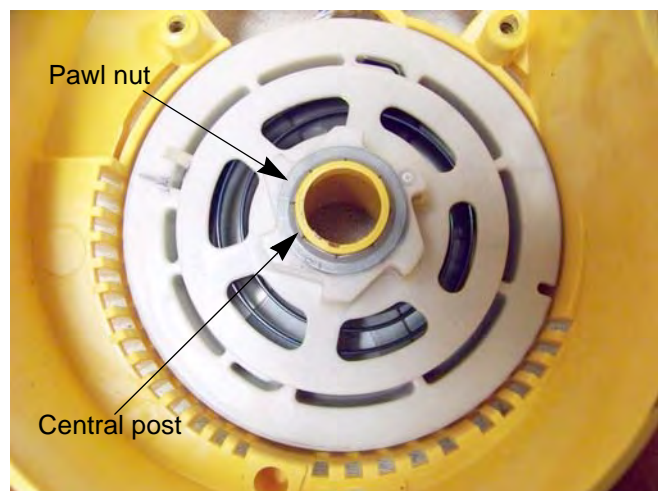

Figure 6.13
**NOTE:** The central post has a shoulder on it that acts as a stop for the pawl nut. Drive the pawl nut down till it stops. See Figure 6.13.